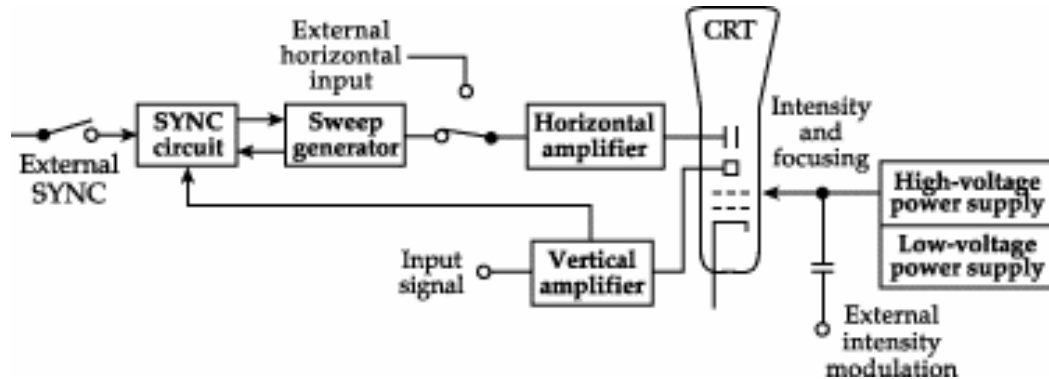

Figure D-2
*The Cathode-ray Oscilloscope:* An oscilloscope is comprised of a CRT, a horizontal amplifier, a vertical amplifier, a sweep circuit, and a synchronization circuit, as illustrated in figure D-2.